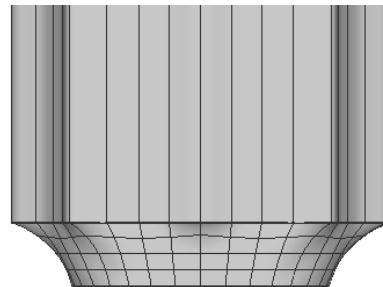

Figure 11-106 Base of the bottle created
3. Select two circles with the SHIFT key pressed; the base of the bottle is created, as shown in Figure 11-106.